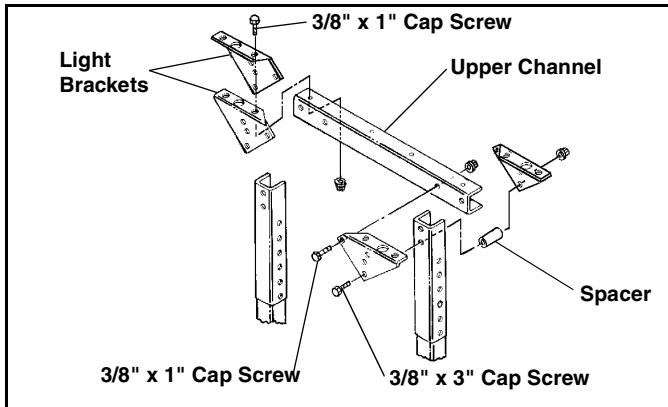

Figure 7
7. Attach pair of Light Brackets (#13) and (#14) to each end of Upper Channel (#12) with (4) 3/8" x 1" Cap Screws (#20), and Nylock Nuts (#24) provided. (See Figure 7)
8. Attach Light Brackets/Upper Channel assembly to Mounting Channels with (2) 3/8" x 1" Cap Screws (#20), and (2) 3/8" x 3" Cap Screws (#23), Washers (#25), and Nylock Nuts (#24) provided. Use (2) Spacers (#34) between Light brackets and channel on long Cap Screws. (See Figure 7)